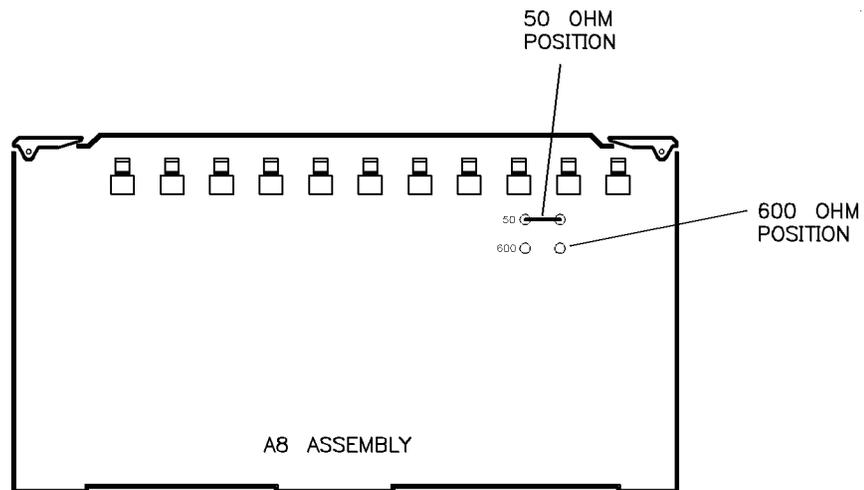

Figure 3-38. A8 Jumper Locations
2. Lift up the A8 modulation generator assembly far enough to access the jumper shown in Figure 3-38.